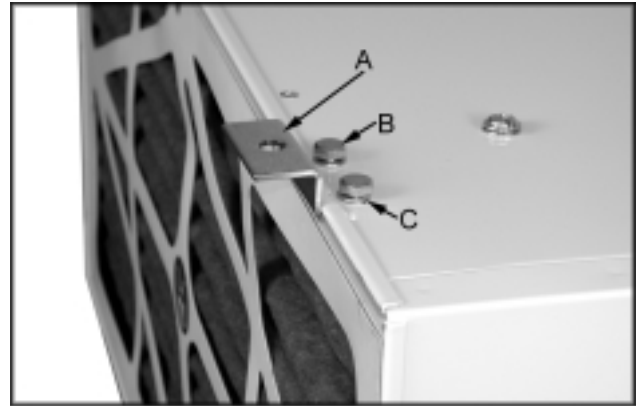

Fig. 2
- Attach the bracket (A, Fig. 2) with two hex cap screws (B, Fig. 2) and two lock washers (C, Fig. 2).